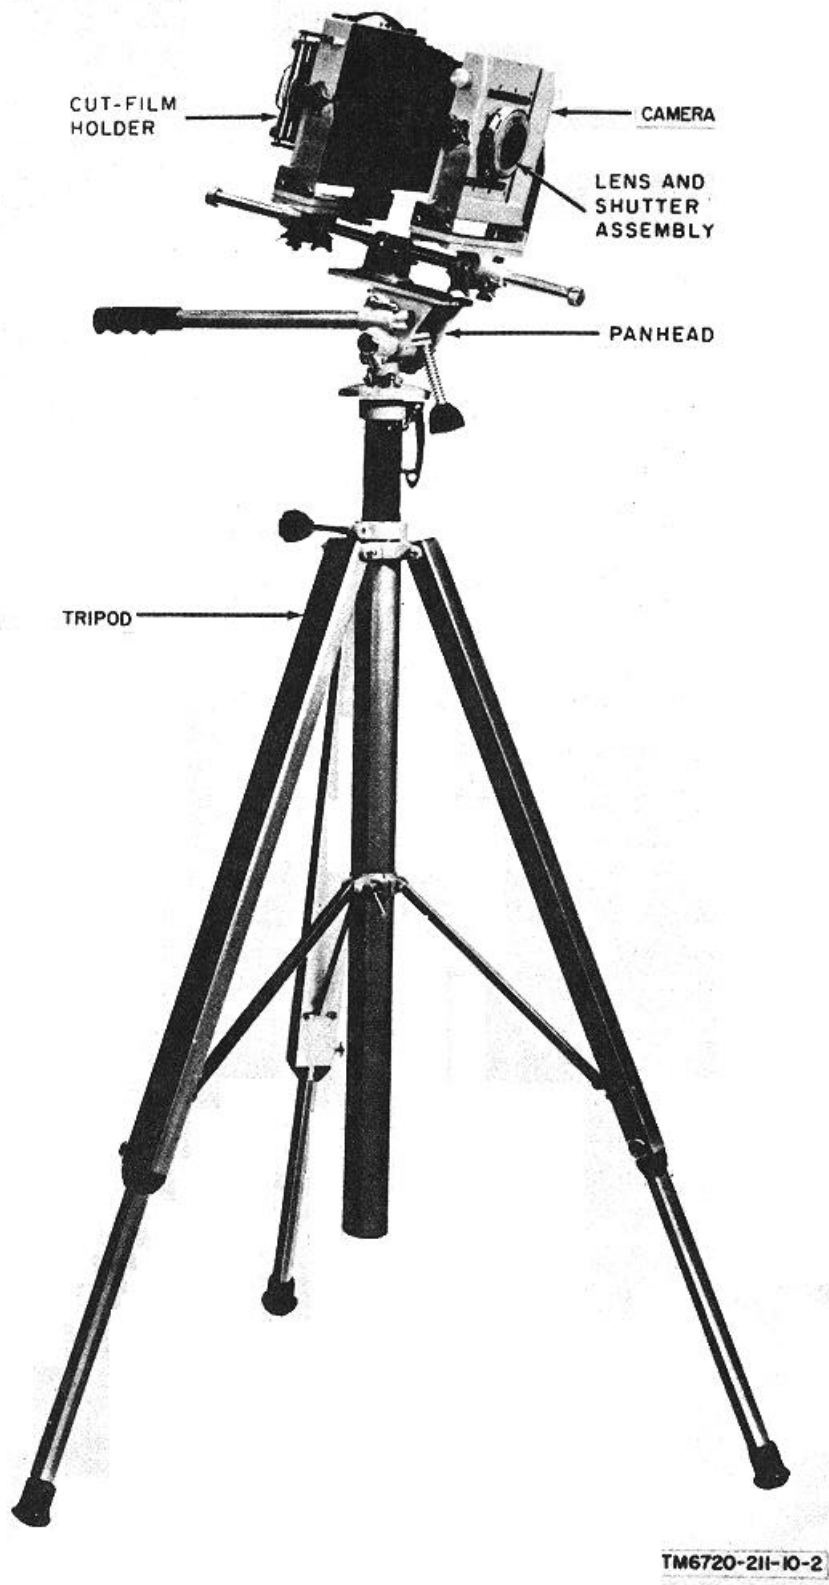

Figure 3. Camera mounted on tripod.
a. *Camera Component.* The camera component, with a lens and shutter assembly attached, is a monorail bed view camera (fig. 3). Focusing is accomplished by means of front and rear carriage adjust knobs (fig. 5). An adjustable mounting adapter permits positioning the monorail bed so that the camera's center of gravity is over the point of attachment to the panhead (fig. 3). The camera has provisions that permit vertical tilt, horizontal swing, and lateral and vertical movement of the optical axis and film plane with respect to each other. Click stops facilitate returning movable parts to their normal resting position. A rack and pinion gear arrangement allows the lens and shutter assembly to be raised or lowered with respect to the camera's film plane. A camera level vial (fig. 5) is provided on top of the rear frame to facilitate the leveling of the camera when it is set up for operation. A lift handle (fig. 6) attached to the revolving back permits the cut-film
b. *Tripod.* The tripod (fig. 3) is equipped with a detachable panhead and a spring-loaded central support column (center post). The center post can be raised or lowered in a center post tube to which the three telescoping legs are attached. Each leg telescopes in two sections and is equipped with a rubber foot. A spirit level vial (fig. 6) is provided on the panhead to facilitate leveling the equipment when it is set up for operation.